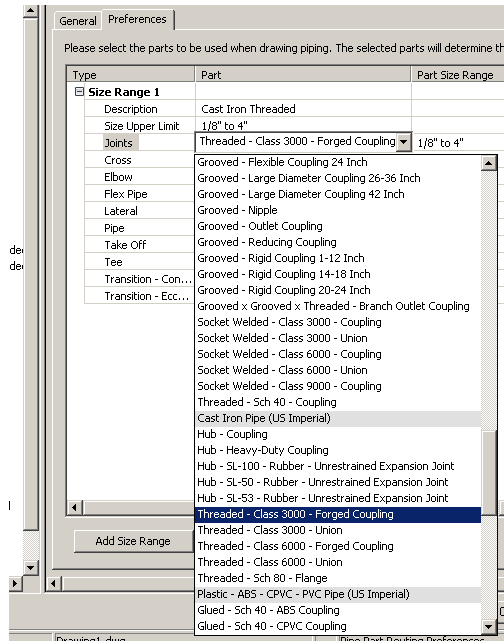

Figure 6.16
10. Scroll down to the Cast Iron Pipe (US Imperial) catalog and then select the **Threaded – Class 3000 - Forged Coupling** item (see Figure 6.16).